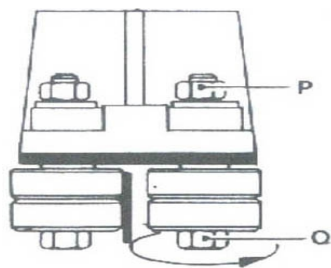

Fig.5
- Using a 10mm-spanner, slacken the hexagonal nuts P on the two blade guide on the outside of the blade (fig.5).